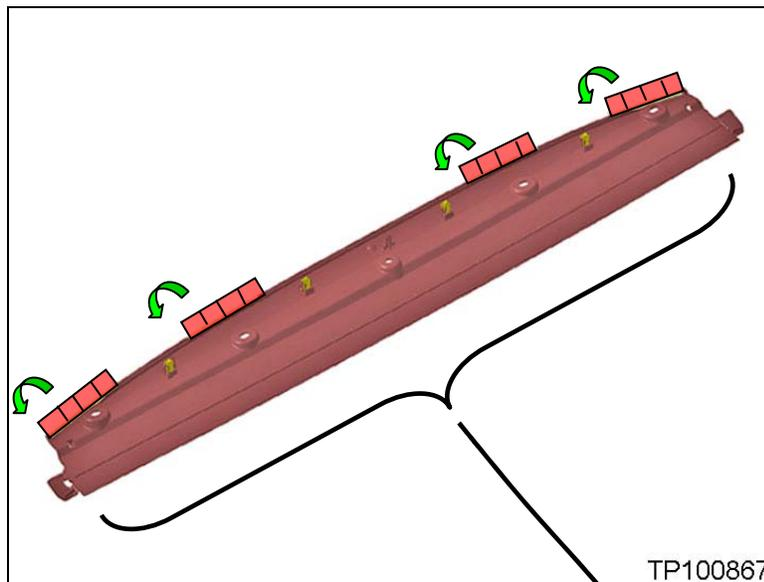

Figure 8
5. Cut to width, and then apply four (4) pieces of felt cloth tape to each area where shown in Figure 8.